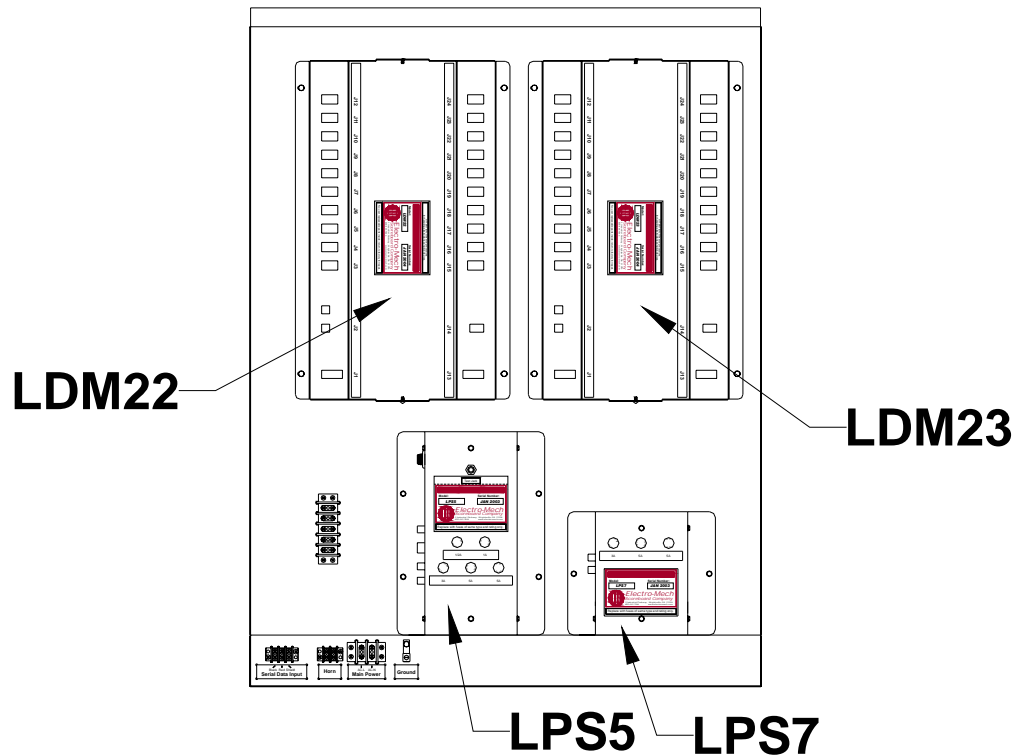

Figure 7 Access Panel Removed
4. Figure 7 shows the view behind the access panel.